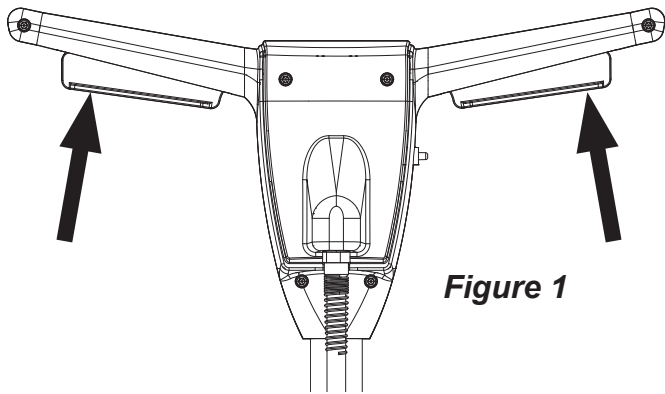

Figure 1
**Start / Stop Levers** (see Figure 1).